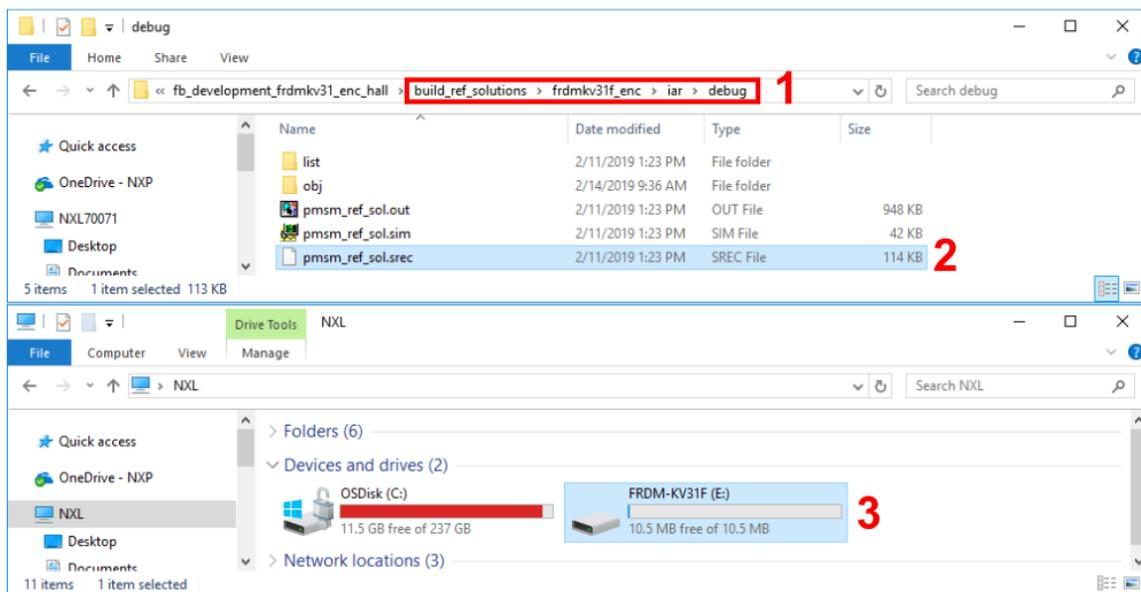

Figure 20. OpenSDA MSD
2. Locate the generated S-record file (\*.srec, \*.s19, or \*.bin file extension), Point 1 (Figure 20).